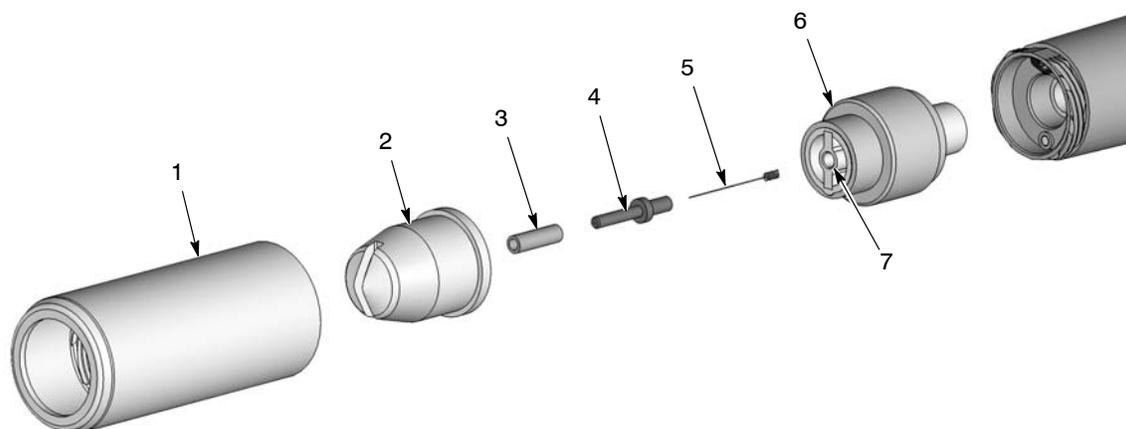
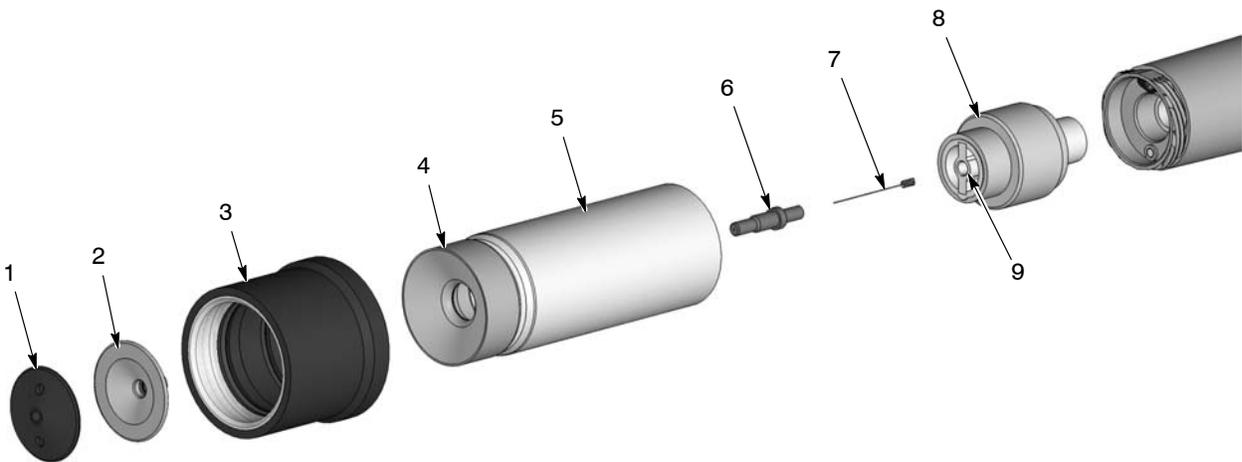

Figure 4-6 Cleaning Flat and Corner Spray Nozzles
Figure 4-7 Cleaning a Conical Nozzle
2. See Figure 4-6. Unscrew the nozzle nut (1) counterclockwise.
3. Pull the nozzle nut and flat spray nozzle (2) off gun. Remove the nozzle from the nut and clean both with low-pressure air and clean cloths. Replace if worn or damaged.
5. Inspect the sleeve (3), and electrode holder (4). If either is worn or damaged, replace them with the flat spray electrode holder kit.
- a. Unscrew the electrode holder and sleeve from from the ceramic spider (7).
- b. Install the new electrode (5) in the new holder, then screw the holder into the ceramic spider. Slide the sleeve over the electrode holder.
6. Install the nozzle onto the electrode support (6), then screw the nozzle nut onto the gun body clockwise until finger-tight.
See Figure 4-6. To change from the standard conical nozzle to a flat or corner spray nozzle, you will need to order:
CAUTION: See Figure 4-7. The deflector cap (1) and deflector (2) must be removed before removing the nozzle nut from the gun. If they are not removed first, the electrode support (8) will be damaged.
1. With your finger, hold the deflector (2) from turning while you unscrew the deflector cap (1) .
2. Pull the deflector off the conical electrode holder (6).
3. Unscrew the nozzle nut (5) and remove it along with the pattern sleeve (3) and conical nozzle (4) from the gun.
5. Unscrew the conical electrode holder (6) from the electrode support. Remove the electrode (7).
6. See Figure 4-6. Insert the new electrode (5) into the flat electrode holder (4).
7. Screw the flat electrode holder into the ceramic spider (7).
8. Install the wear sleeve (3) over the flat electrode holder.
9. Install the flat or corner spray nozzle (2) onto the electrode support (6), then screw the nozzle nut (1) onto the spray gun.
2. See Figures 4-6 and 4-7. Remove the nozzle from the gun: